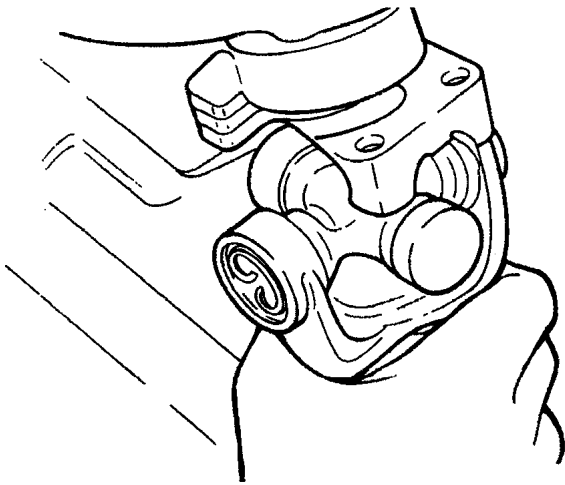

Figure 31 Position Bearing Caps into End Yoke Shoulders
3. Holding propeller shaft tightly, position the bearing caps into the end yoke shoulders (Figure 31).